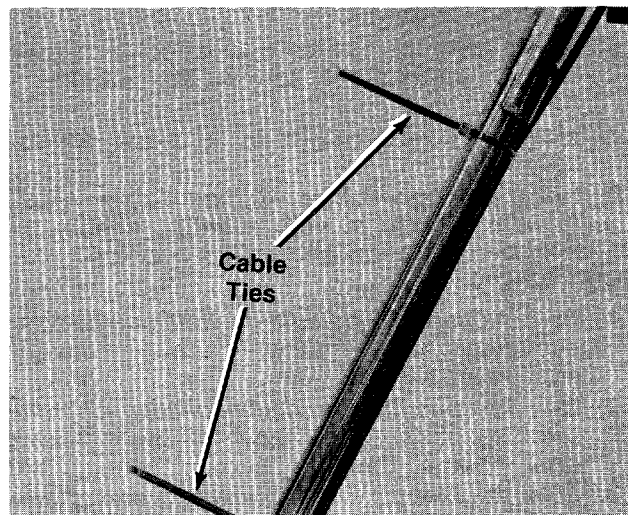

FIGURE 4
6. Secure the throttle control wire and clutch wire to the lower handle with the cable ties. (See figure 4.) Cut off ends.